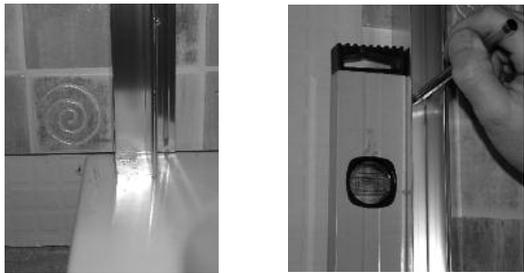

Figure a4 **Figure a4i**
4. Fit both Wall Profiles approx. 20mm in from the front outside edge of the Tray (**Figure a4**). Ensure both Wall Profiles are completely vertical using a Spirit Level. Mark the slots with a pencil where the Wall Profiles are to be positioned (**Figure a4i**).